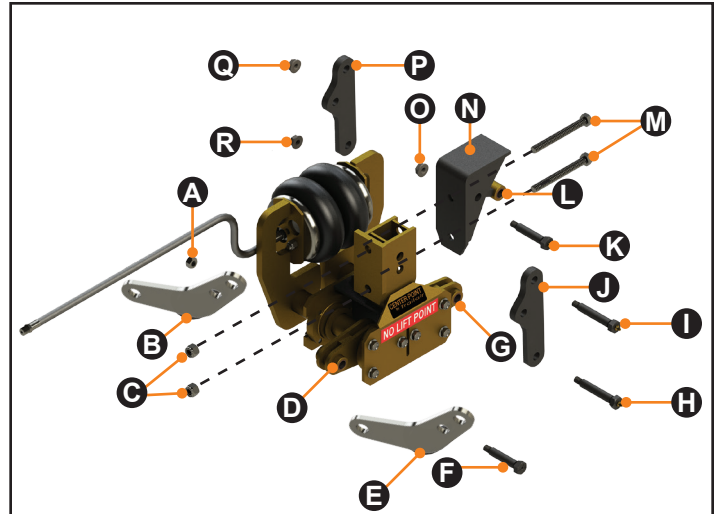

Fig.5
2. Working on the roadside front equalizer (**Fig.5**) starting on the left side of the assembly, dry fit one of the provided shackles (**Fig.5E**) onto the front of the equalizer's cross-shaft shackle links (**Fig.5D**). When working on the curbside front equalizer, start on the right side of the assembly to dry fit a shackle.